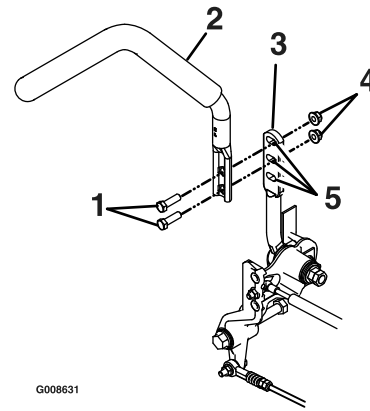

Figure 35
1. Remove the two bolts holding the control lever to the control arm shaft (Figure 35).
2. Loosen the lower bolt just enough to pivot the control lever fore or aft Figure 35. Tighten both bolts to secure the control in the new position.